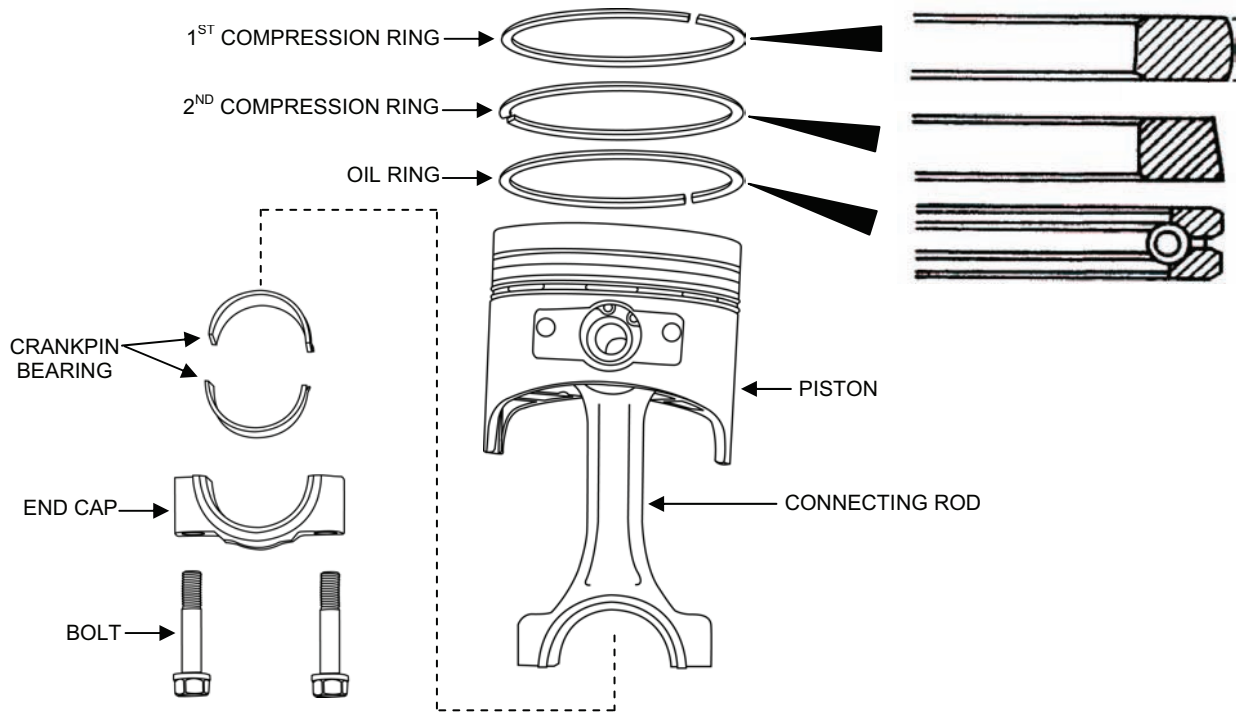

Figure 9. Piston Ring Removal.
10. Using a ring spreader, remove the three piston rings from the piston (see Figure 9).